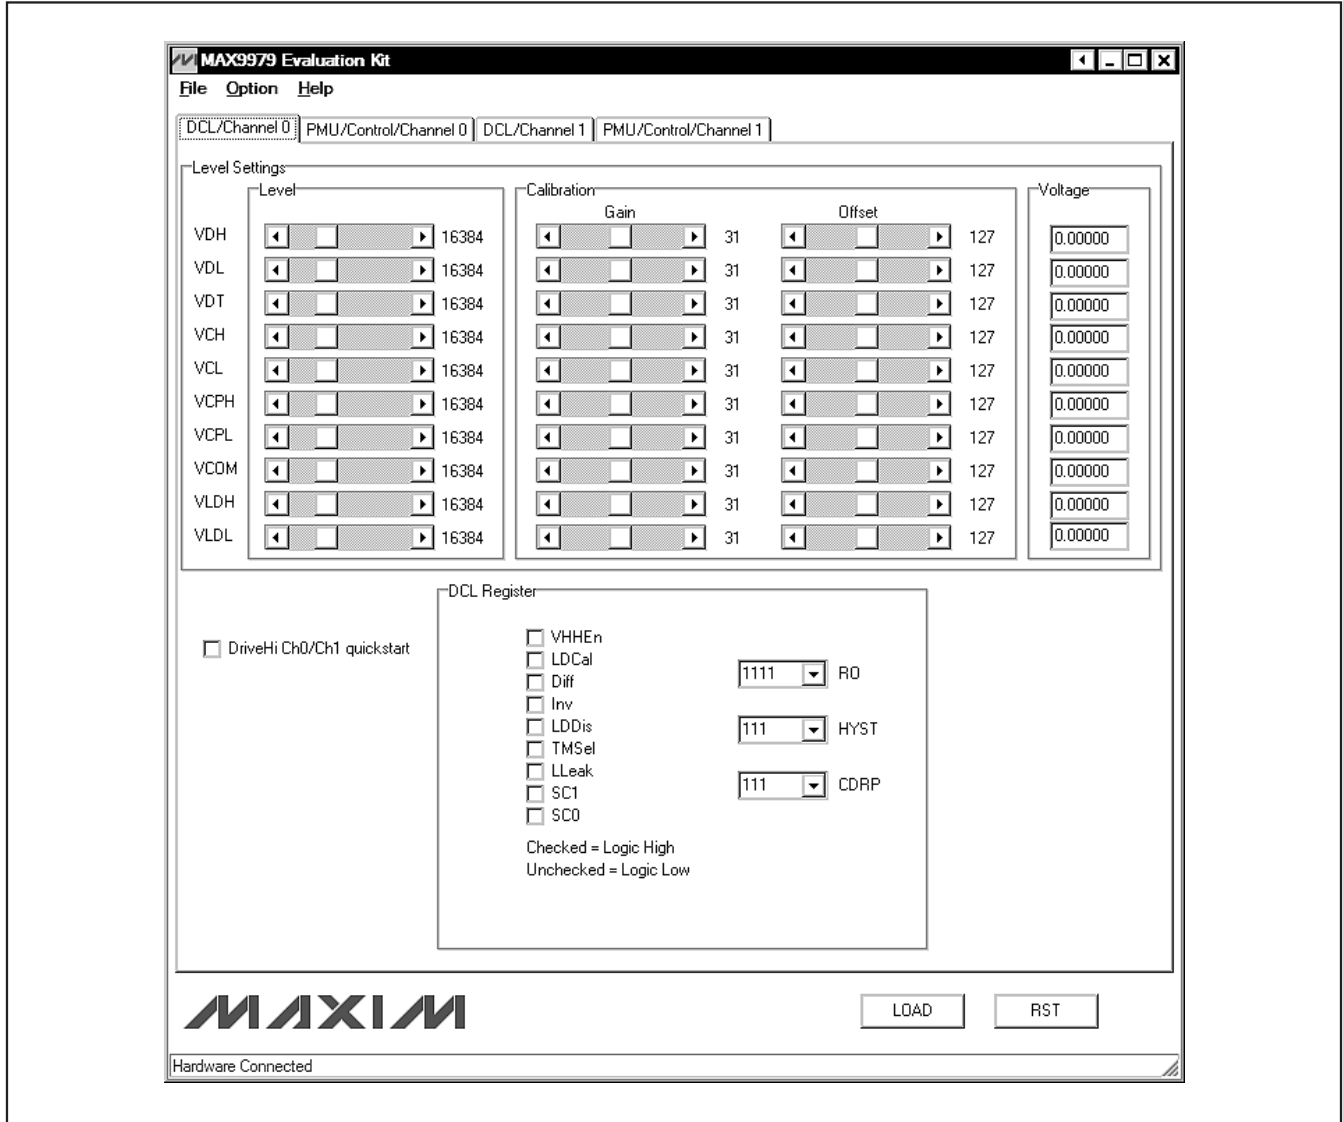
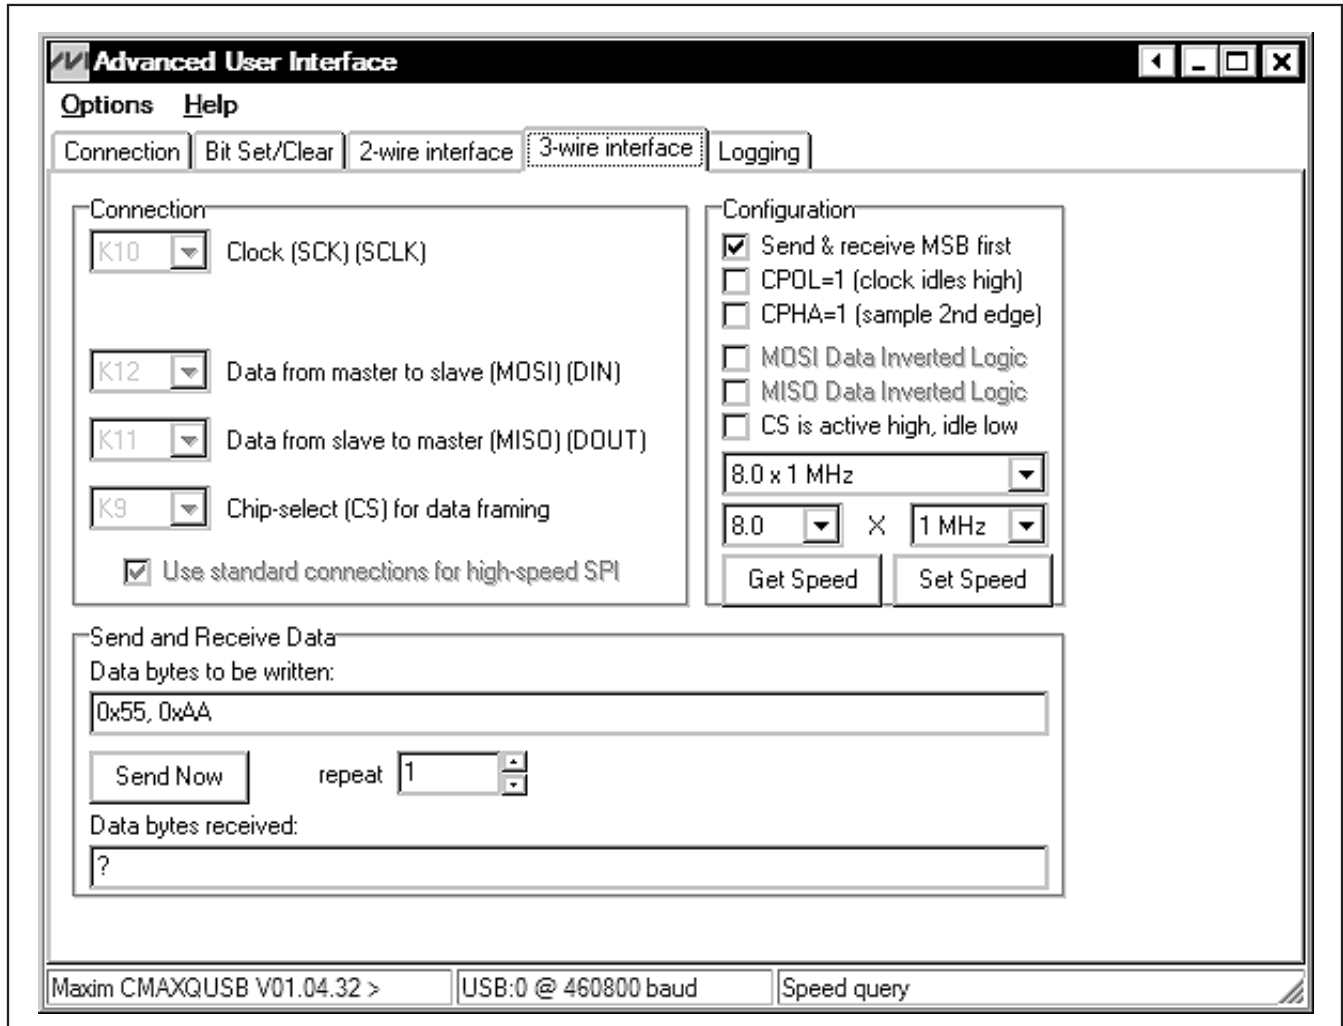

Figure 1. MAX9979 EV Kit Software Main Window (DCL/Channel 0 Tab)
Figure 6. Advanced User Interface Window (3-Wire Interface Tab)
- 16) Start the MAX9979 EV kit software by opening its icon in the **Start | Programs** menu. The EV kit software main window appears, as shown in Figure 1.
DCL/Channel 0 and DCL/Channel 1 tab sheets (Figures 1 and 3) are identical and are for channels 0 and 1, respectively. These tab sheets contain **Level Settings** and **DCL Register** group boxes.
There are two methods for communicating with the MAX9979. The first is through the window shown in Figures 1, 3, 4, and 5. The second is through the **Advanced User Interface** window shown in Figure 6. The **Advanced User Interface** window is available by selecting the **Option I Interface (Advanced User)** menu item and allows execution of serial commands manually.